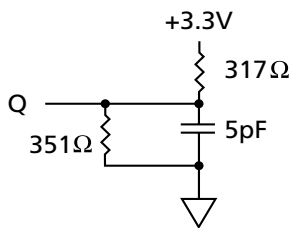
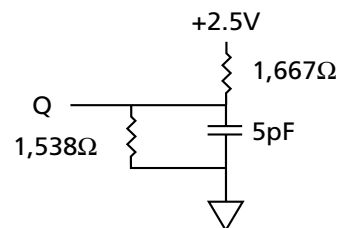

Figure 2
Figure 4
3. This parameter is measured with the output loading shown in Figure 2 for 3.3V I/O and Figure 4 for 2.5V I/O.